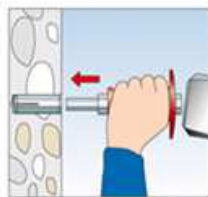
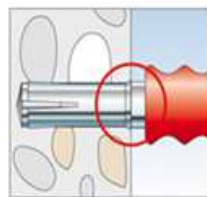

Figure 3
Figure 4
- 4. The sleeve is then expanded with the drive-in tool (thin side Ø13mm) by pushing in the internal pin and clamping it against the wall of the drill hole [Fig. 3 and Fig. 4].